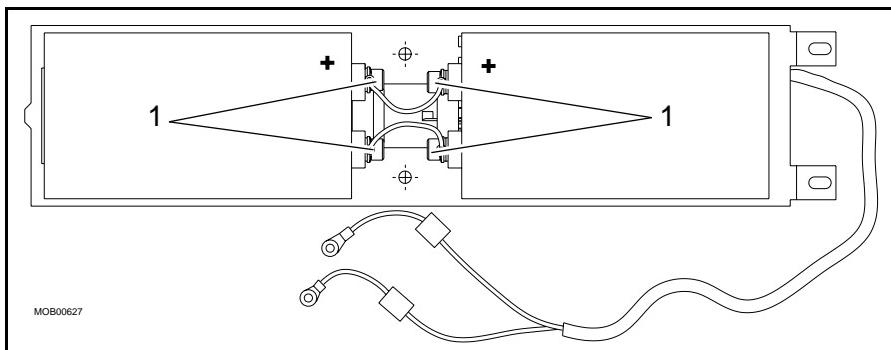

Fig. 10
- Remove the four screws (pos. 1 / Fig. 10).